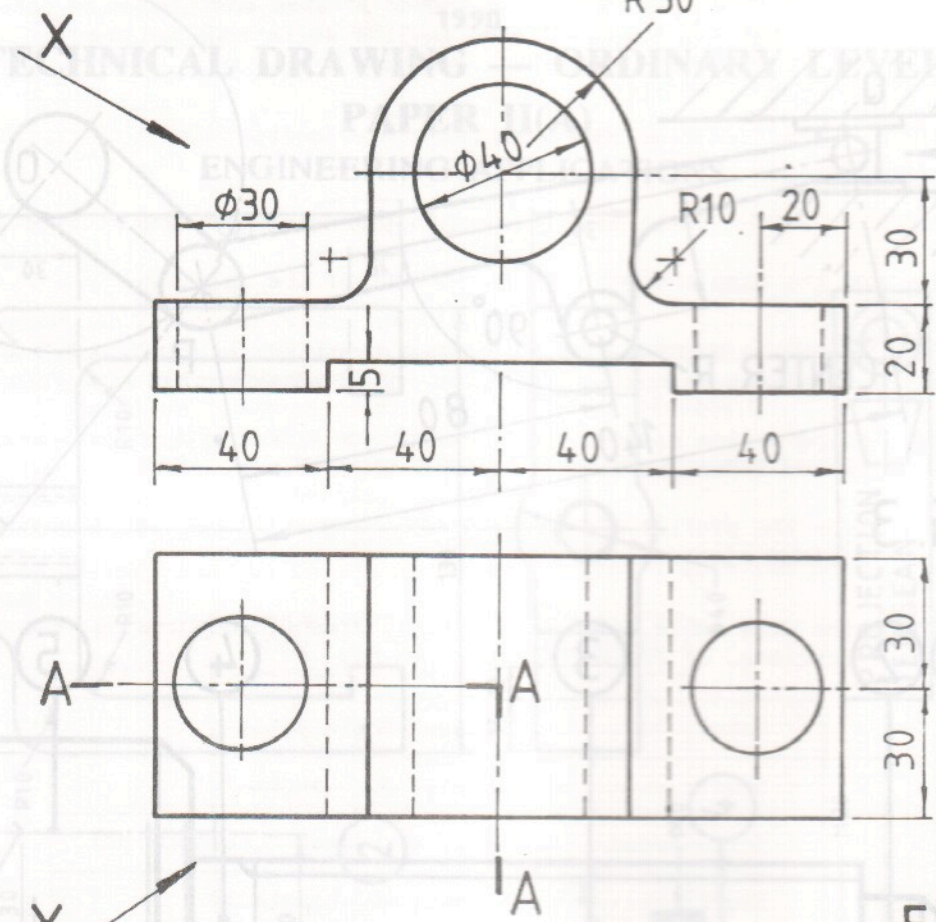

FIG. 6
5. (a) Fig. 6 shows the plan and elevation of a bearing bracket. Draw an isometric view of the bracket, viewed in the direction of arrow X, with the quadrant removed on section plane AAA.